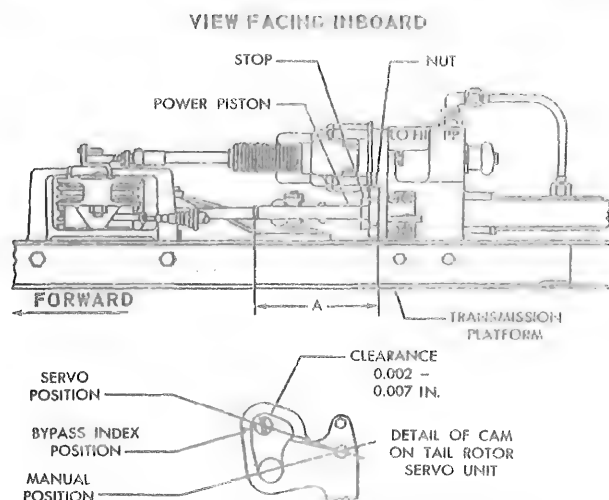

Figure 7-27. Tail Rotor Servo Unit Neutral Position
f. Back off jam nut (2, figure 7-26), and slide back lockwasher (3) on bypass actuator piston rod end (1). Rotate piston rod on its rod end (1) clockwise or counterclockwise in increments of 1/4 turn, using wrench, part No. S1670-10673, until cam roller clears cam by 0.002 to 0.007 inch. (See detail A, figure 7-27.)
Lockwasher (3, figure 7-26) must be positioned to clear housing. Rotate piston rod (4), 1/4 turn, using wrench, part No. S1670-10673, if necessary, staying within 0.002 to 0.007-inch clearance. (See figure 7-27.)
h. Decrease hydraulic pressure until two lines scribed on cam line up with center line of cam roller. (See figure 7-27.) Hold hydraulic pressure at this point.
j. Adjust bolt (10) on bypass valve extension (11) to barely contact valve extension shoulder.
k. Advance or back off bolt (10) minimum amount necessary to install cotter pin (8) in flange at rod end (1) of bypass actuator piston. Install cotter pin.
m. Extend piston rod (4) of bypass actuator piston. Cam roller should be bottomed in manual position. (See figure 7-27.)